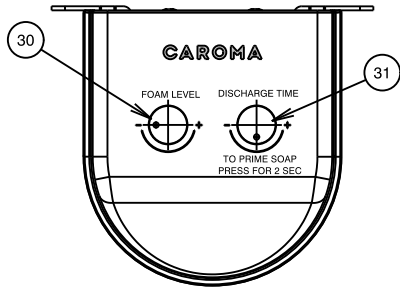

Fig. 1 - Soap control unit functions
- * Both water based & non-water based soap solutions can be used. Soap solution viscosity should be within 100 to 2500 cps. For high viscosity soap solutions, the foam level knob (30) must be set to minimum at '-' no air to enable smooth dispensing. For water based solutions, the foam level knob (30) must be turned anti-clockwise towards '+' max. air.
- * Soap control unit must be primed before first use and after every refill. Follow priming instructions, as shown in Fig.1.
- * The soap control unit (12) is mains powered only. Separate battery box is supplied which can be used as a battery backup.